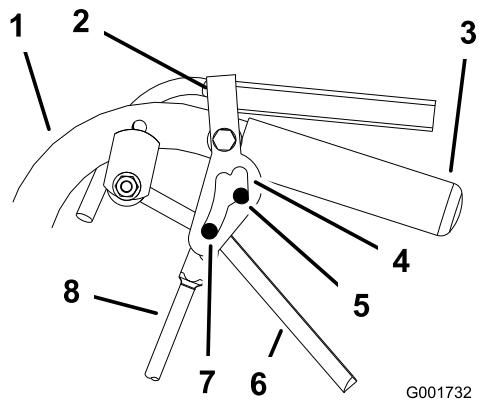

Figure 41
5. Release and engage neutral lock checking that the tire does not rotate (Figure 41). Continue this process until the tire does not rotate.